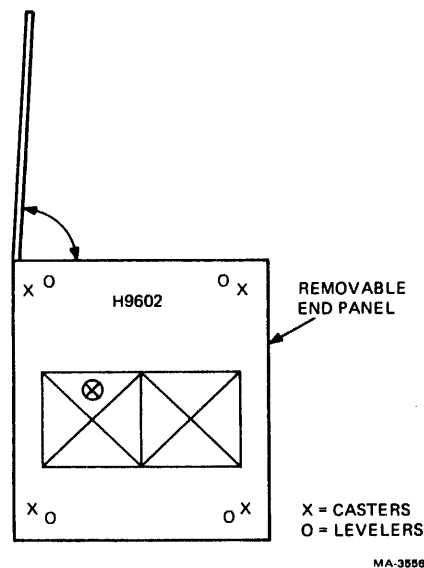

Figure 2-5 H9602 Cabinet Installation
4. Ensure that the leveling feet are above the level of the shock isolating casters (Figure 2-5).